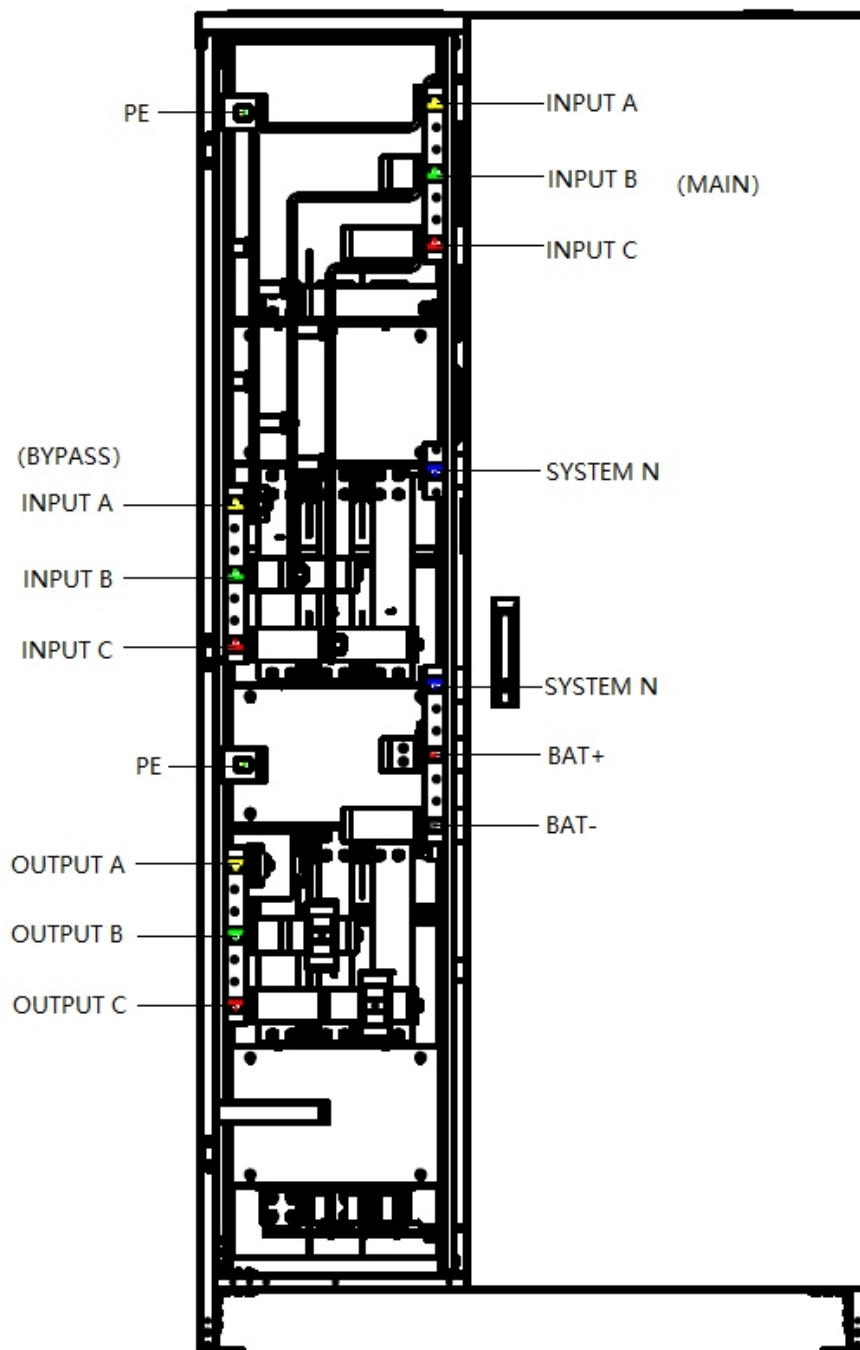

Figure 3-11 Connections terminals
**Step 2:** Open the back door of the cabinet, remove the plastic cover. The input and output terminal, battery terminal and protective earth terminal are shown in Figure 3-11;
**Step 4:** Connect the main input wire to the input terminal (Main Input); Connect the output wire to the output terminal (Output) as figure 3-11;